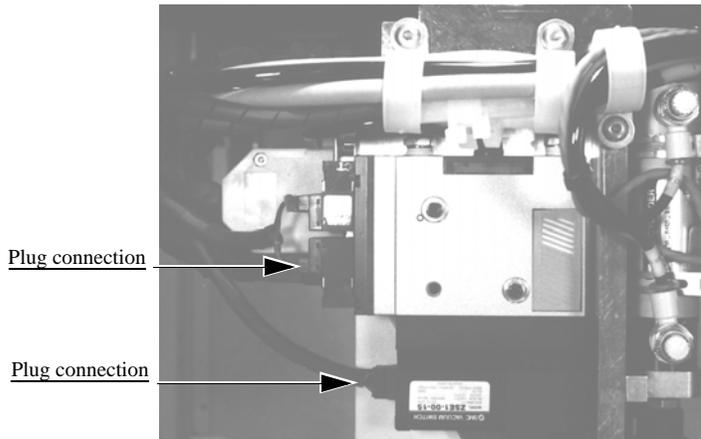

Figure 5-11—PNP gantry wiring harness plug connections
- 1b) Check PNP gantry wiring harness plug connections and make sure that they are secure. See Figure 5-11.